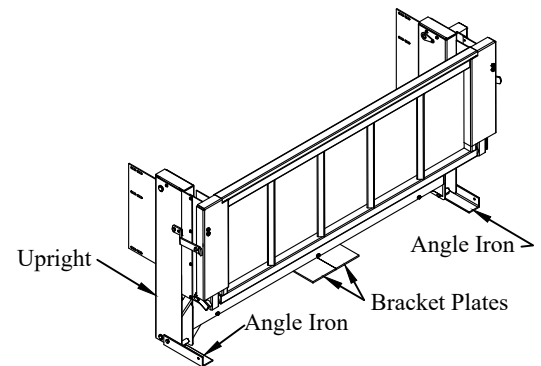

Figure 2: Complete liftgate.
4. **Unbolt** the two (2) angle irons attached to the liftgate uprights (Figure 2).
5. **Remove** the two (2) bracket plates attached to the liftgate (Figure 2).